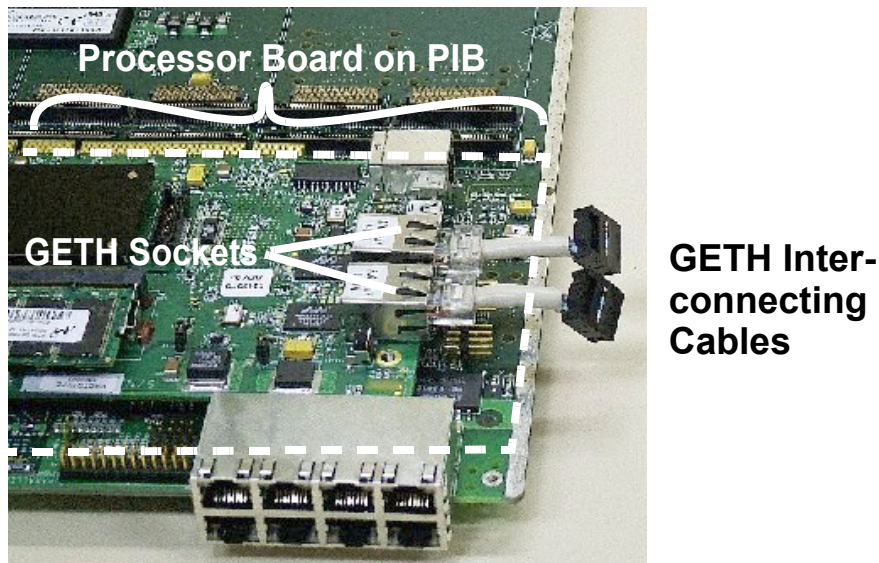
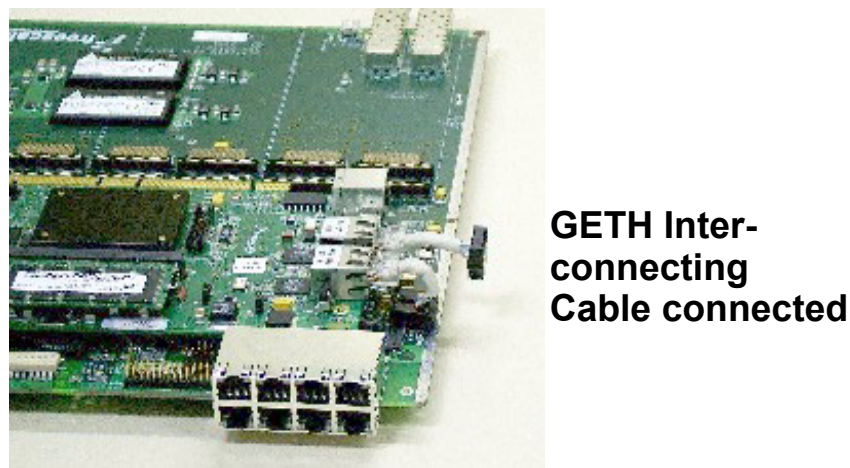

Figure 2-7. Insert GETH interconnecting cables to GETH sockets on Processor board
Figure 2-8. Connect GETH interconnecting cables to sockets on PIB
6. If you will be working with a back plane, and wish GETH signals to traverse either the back plane connection, or the front plane optical connection, connect the two GETH sockets on the MPC8360 MDS Processor Board with sockets on the PIB board as shown in Figure 2-7 and Figure 2-8.